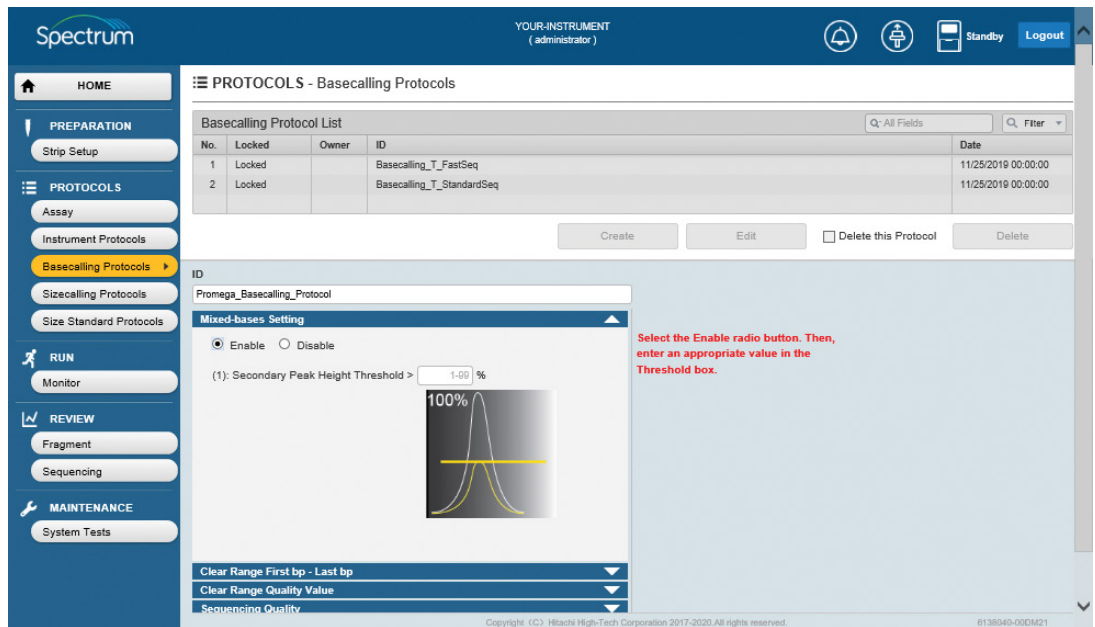

Figure 35. 'Mixed-bases Setting' pull-down screen.
2. Enter a Basecalling Protocol ID for the new basecalling protocol by selecting the **ID** field to activate the cursor (see Section 3.1 for information on acceptable and unacceptable characters). Select the **Mixed-bases Setting** pull-down menu and select the **Enable** radio button if desired, followed by the Secondary Peak Height Threshold value (Figure 35).